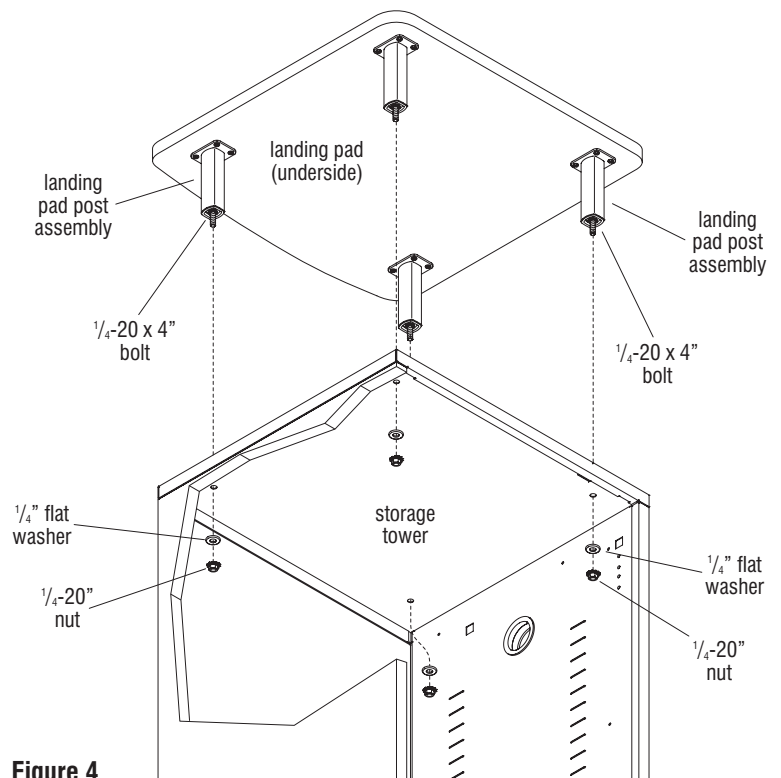

Figure 4
4. Carefully rotate the landing pad with four landing pad post assemblies onto the top of the binder tower, such that the bolts insert down through the four mounting holes in the top of the binder tower (Figure 4).
5. From inside the tower, locate the  $\frac{1}{4}$ -20 bolts inserted through the top, place a  $\frac{1}{4}$ " washer and  $\frac{1}{4}$ -20 nut onto each bolt. Tighten the nuts to secure the landing pad to the binder tower top (Figure 4).